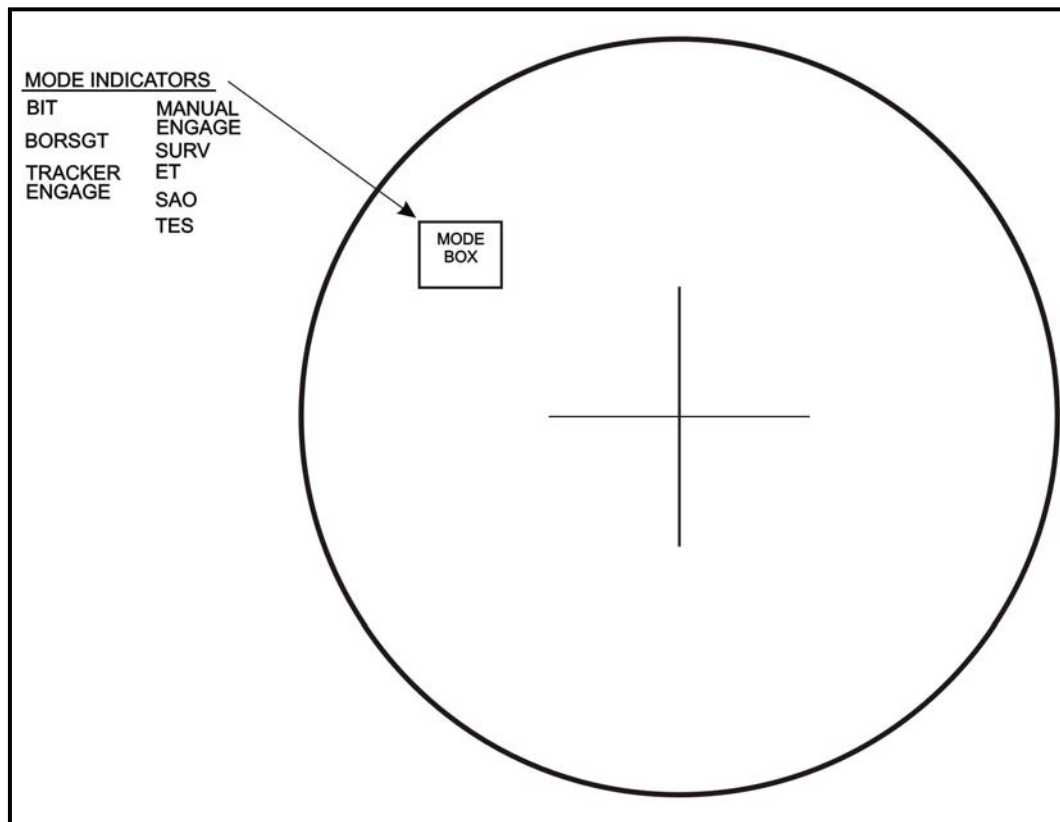

Figure 2-24. Mode indicators and mode box.
(1) **MODE Indicators.** The ITAS has five operational modes and three training modes. The operational or training mode selected by the gunner will be shown in the mode box on the TAS display (Figure 2-24). Modes of operation and training include:
- Embedded training (ET)—indicates that embedded training has been initiated. Simulated missile fly out will occur.